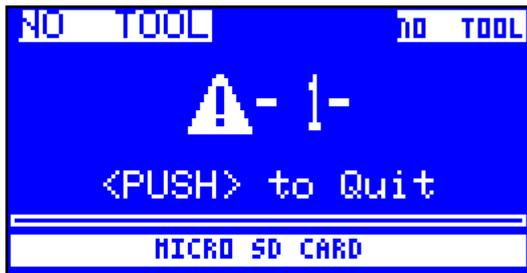

Figure 6. microSD™ card, Error 1
*If the update does not start after 5 seconds, or the error message »Error 1« displays (see figure 6), the microSD™ has been inserted either the wrong way round or at an angle. Turn the station off, insert the card correctly and turn the station back on again.*